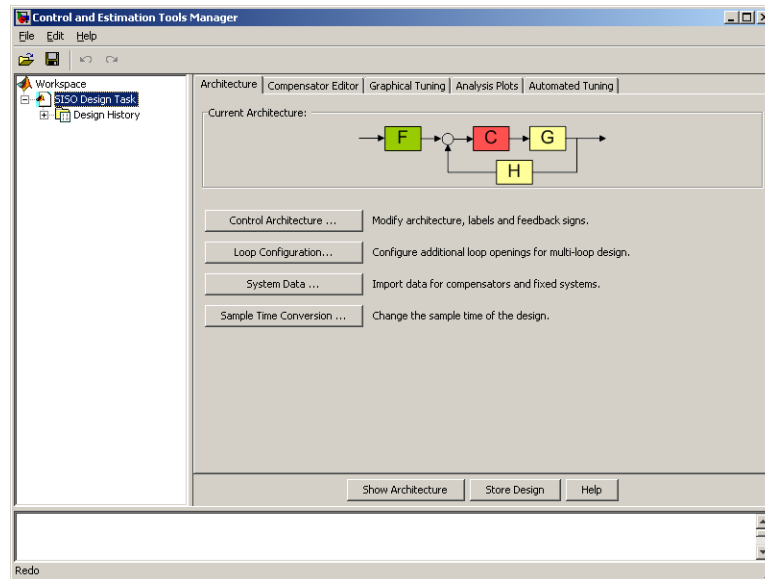

Figure 1: Control and Estimation Tools Manager
1. Use **sisotool** to determine the values of k_p , k_i and k_d for the PI-D and I-PD controllers by first setting the control architecture to get the proper configuration (see Figure 1).